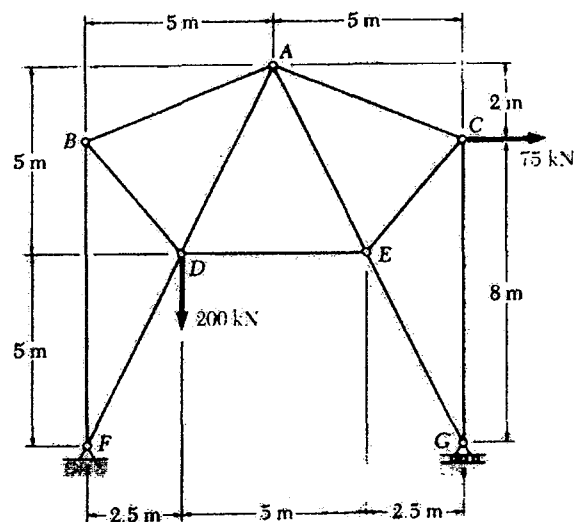

Figure 5
5. For the thrust and loading shown in Figure 5, determine the normal stress in member AD, knowing that the cross sectional area of the member is 120 mm^2 .